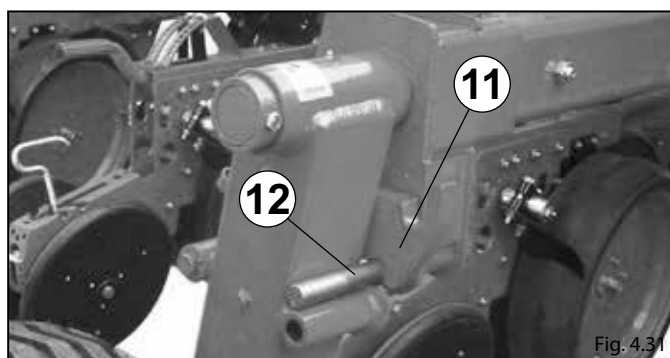

Fig. 4.31
- By acting on the tractor hoist, lift the machine until the hook **11** engages with the pin **12** (Fig.4.31).